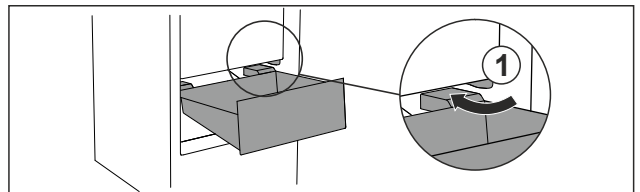

Fig. 105
- Guide drawer in at an angle around the stoppers Fig. 105 (1).